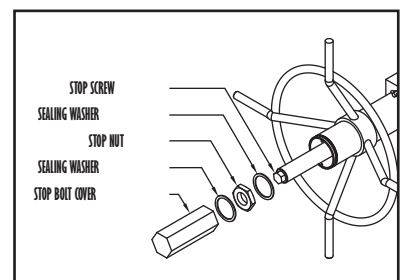

figure 3
- 1.3 Jackscrew (See figure 3)